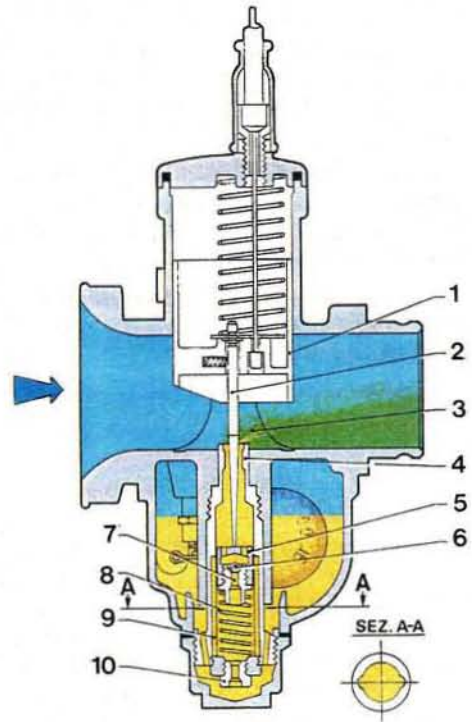

fig. 30
Figure 30 shows a simpler pump system than the one previously described, used on some other carburettor models.
The pump action is also affected by the length of the grooves (9) machined in the internal walls of the cylindrical chamber, where the pump piston moves (see figure 30).